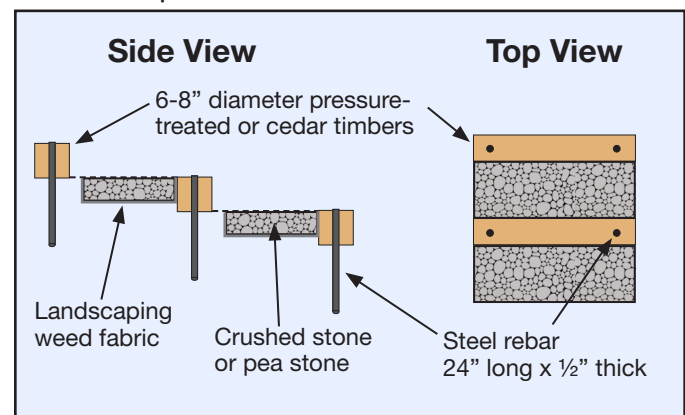

Figure 4
- Fill each step with $\frac{3}{4}$ " crushed stone or pea stone until it is about 1" below the top of the timber (Figure 4).